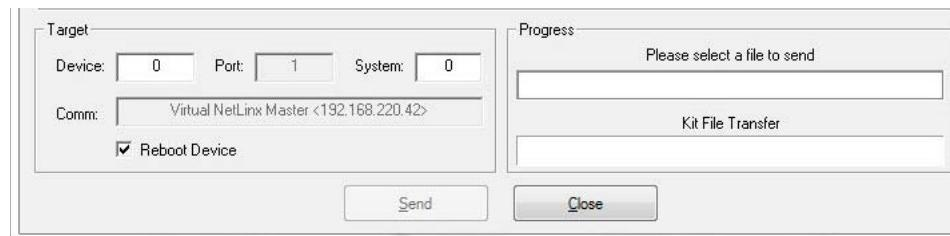

FIG. 33 Send to NetLinx Device dialog window
- Select **Tools > Firmware Transfers > Send to NetLinx Device** from the main menu to open the *Send to NetLinx Device* dialog (FIG. 33). Verify that the panel's System and Device number values match those values listed within the System folder in the **OnLine Tree** tab of the Workspace window.